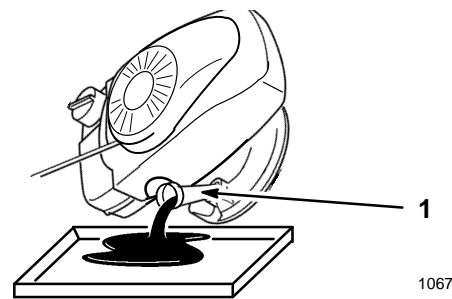

Figure 18
- Drain the oil from the oil fill tube at the dipstick (Fig. 18). Drain the oil into an appropriate container. Recycle the used oil per local codes.